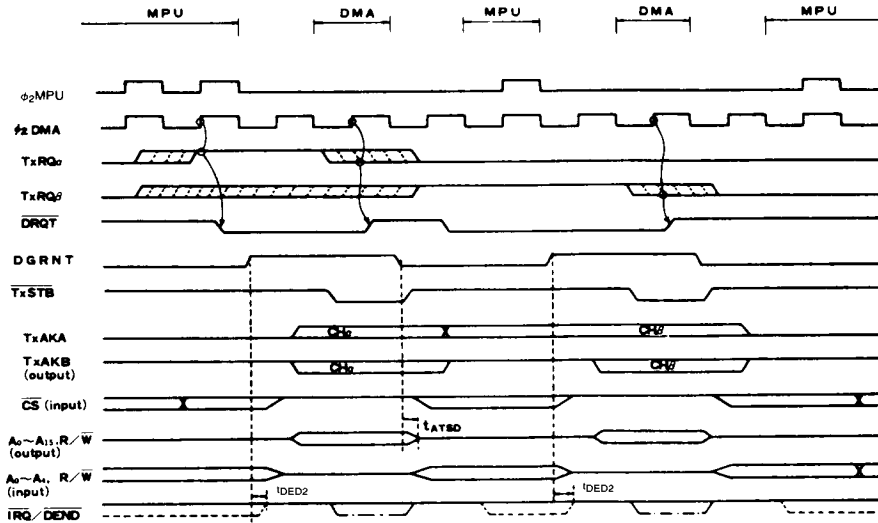
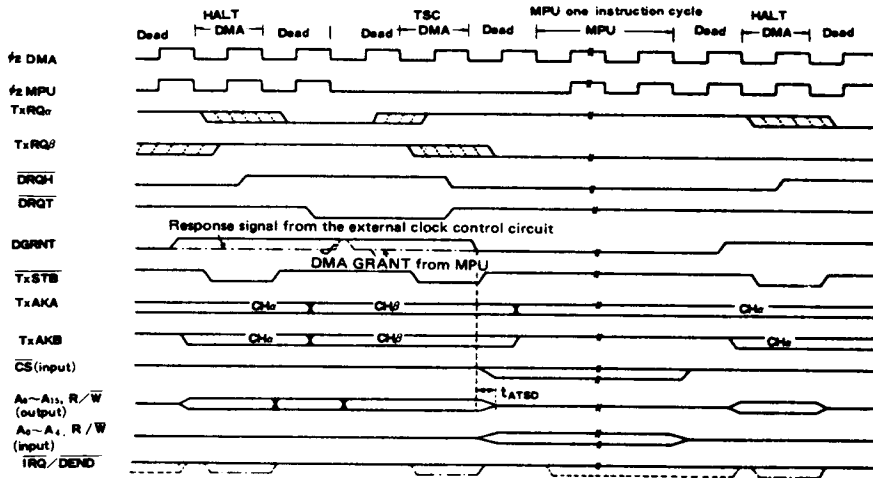
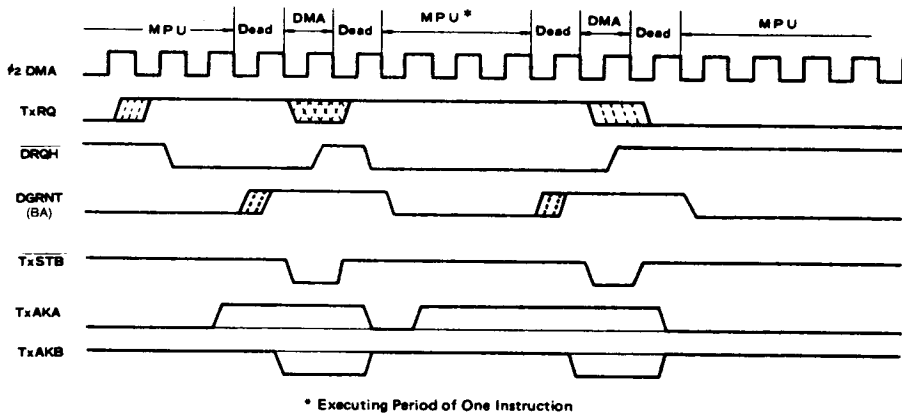

Figure 24 Channel Change (TSC Mode  $\rightarrow$  TSC Mode)
Figure 25 Channel Change (HALT Mode → TSC Mode → HALT Mode)
Figure 26 Successive 2-byte Transfer of One Channel (HALT Cycle Steal Mode)
- (2) From TSC mode to TSC mode (Fig. 24)
- (3) From HALT mode to TSC mode
- (4) From TSC mode to HALT mode
- } (Fig. 25)
Both in the case of HALT → TSC mode and in the case of TSC → HALT mode, DMA operation timing is based on the same idea as the above two kinds of mode change. (In detail, see Fig. 25).
The timing in the case where the next byte is transferred without changing the channel is shown in Fig. 26. This is the case of HALT → HALT mode. In this case, the bus control returns to MPU, before the next byte is transferred. In the case of TSC → TSC mode, its timing is almost the same as than in Fig. 24, that is, after 1-byte transfer has completed, MPU executes the Instruction Cycle for one clock and then DMAC executes 1-byte transfer again.